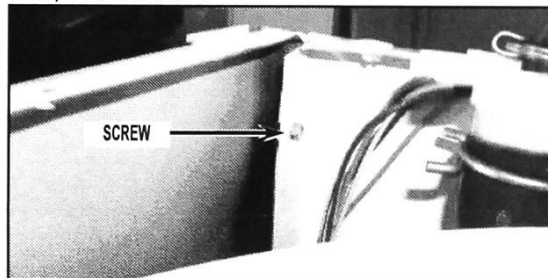

FIGURE 4
7. Remove front panel by first removing the two (2) screws located on the inside of the unit as shown in Figure 4 on each side of the unit. After screws are removed, lift up on front panel to remove.